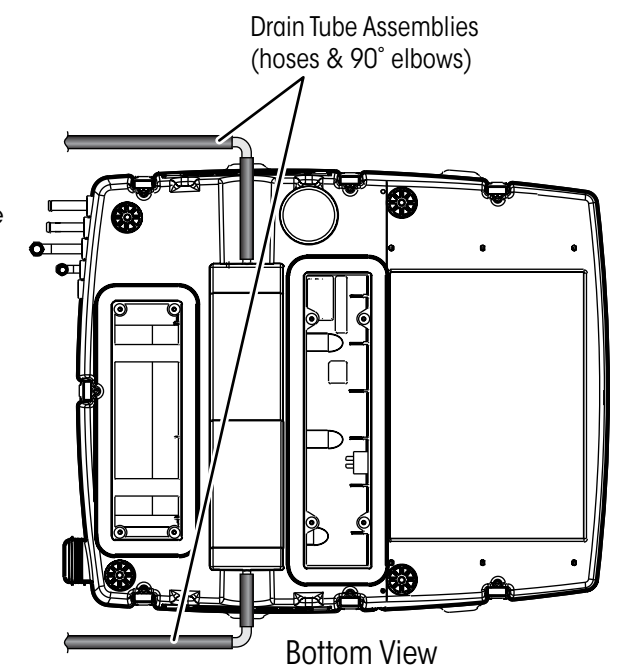

Figure 1
1. Connect drain hose and 90° elbows as provided in the installation kit (RD-3-9146) to the unit. (See Figure 1)